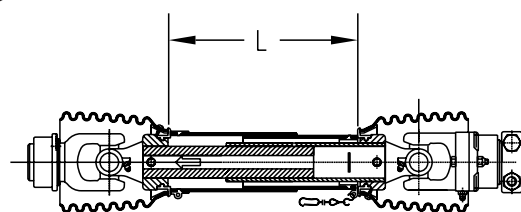

FIG. 4-15
1. Fully collapse PTO shaft and measure length "L" (Fig. 4-15).